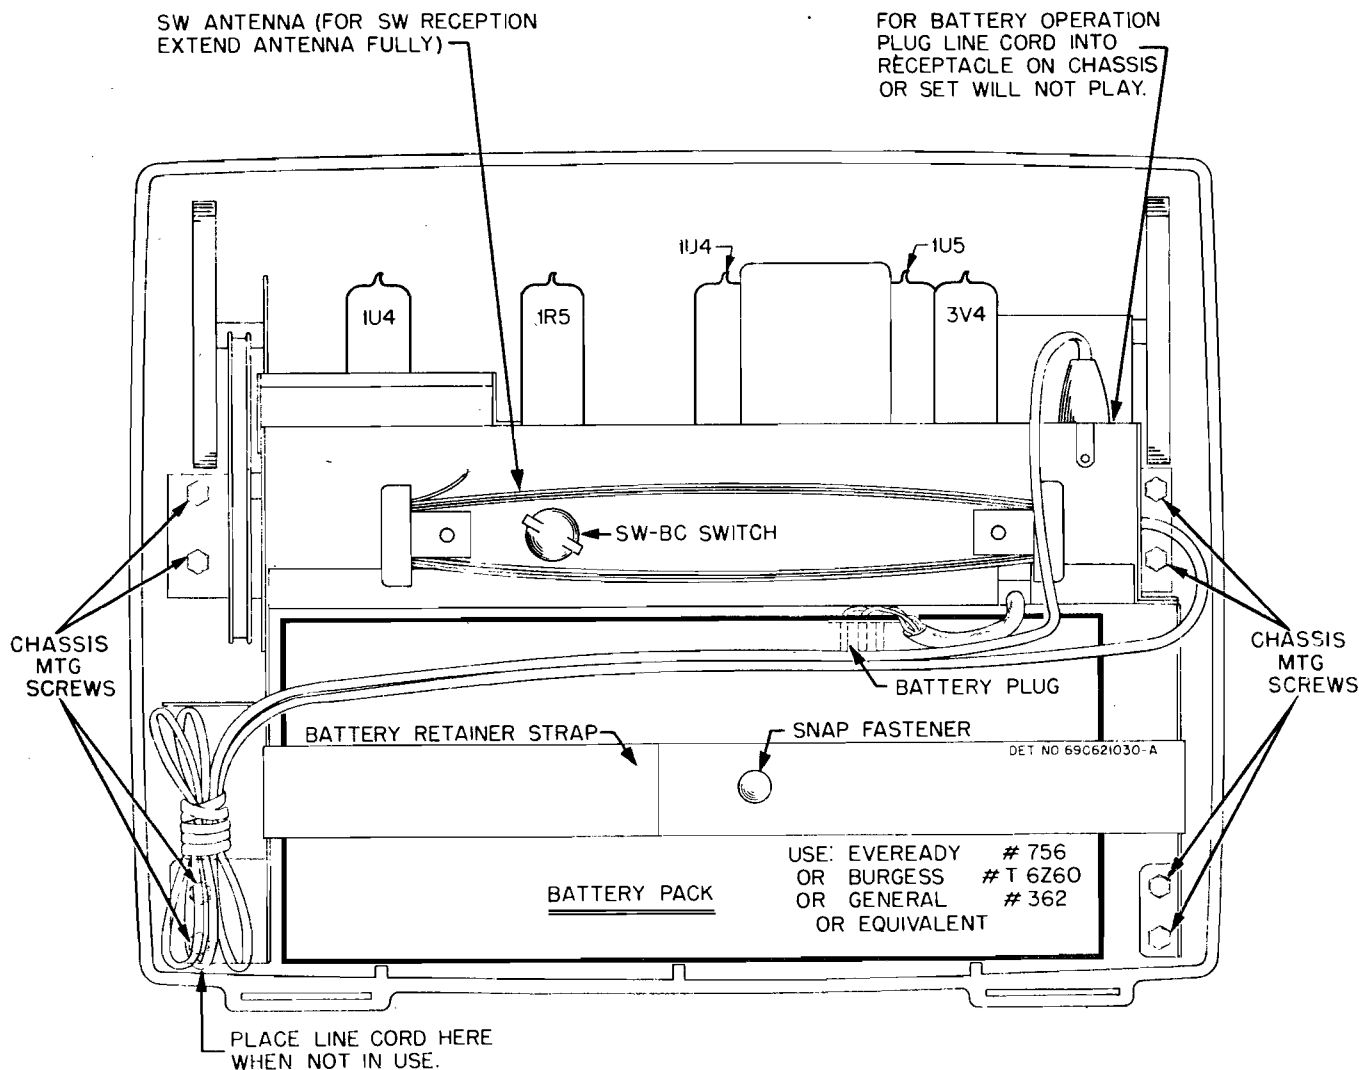

FIGURE 2. REAR VIEW OF RECEIVER
**BATTERY OPERATION.** Open the back cover and install the battery pack by following the instructions on the label located inside the cover, or refer to Figure 2. Plug the power line cord into the receptacle on the chassis, or the
**BANDSWITCH.** Standard broadcast or short-wave reception, as desired, is selected with the knob on the back of the chassis (see Figure 2). Rotate the knob to the right for short-wave or to the left for standard broadcast.
**BATTERY REPLACEMENT.** Replace the battery pack when low volume or fuzzy tone is noticed. Complete battery replacement instructions will be found inside the back cover, or refer to Figure 2.
For short-wave reception, open the back cover, unwind the antenna lead on the rear of the chassis, and extend the lead fully. See Figure 2.
Refer to Figure 2 for the locations of items mentioned below: